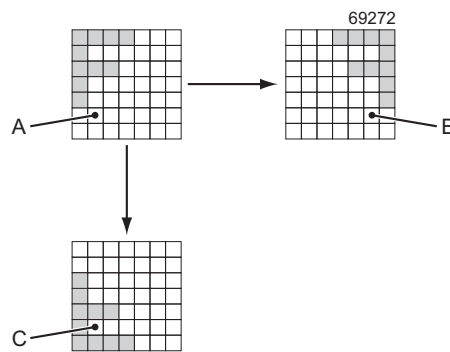

Figure 15. Flip X and Flip Y
Press this key to reverse the logo along the X-axis horizontally (see Figure 15).
Figure 15 shows the operation of the **Flip X** key and the **Flip Y** key. The logo (A) is reversed horizontally (B) if you press the **Flip X** key. The same logo (A) is reversed vertically (C) if you press the **Flip Y** key.